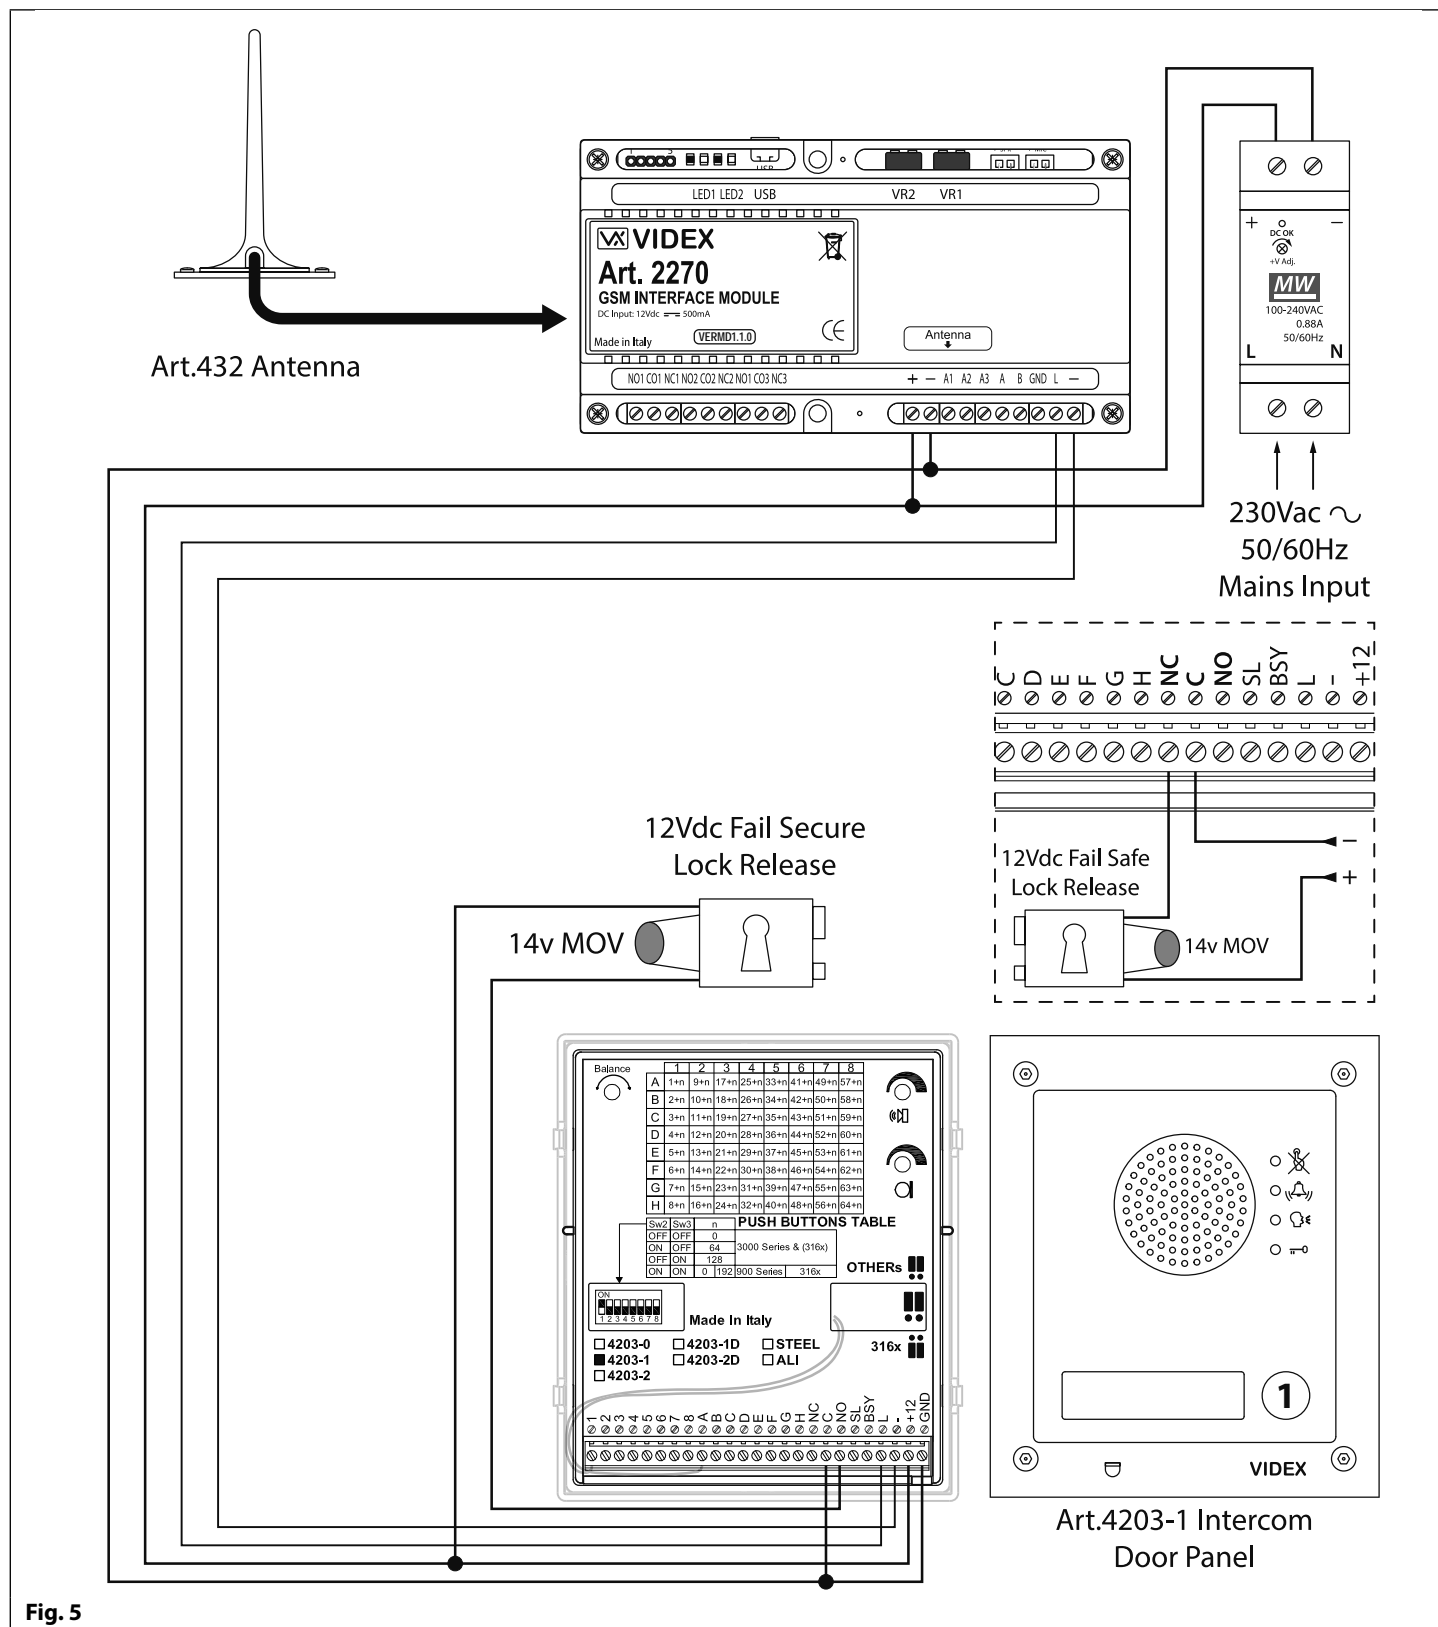

Fig. 5
The following wiring diagram, **Fig.5**, shows the wiring connections for a functional panel, in this example an **Art.4203-1** (speaker) functional panel. The wiring configuration of the panel's buttons can be found in the following technical manual: **VX2K2HDIGSYS Version 1.1** or the relevant installation instructions that come with the speaker module. The same wiring diagram can also be used for other series functional panels.
A fail secure lock release is shown, for fail safe lock release connections move the lock wire from normally open (NO) across to terminal normally closed (NC) on the speaker module, as shown in **Fig.5**.
The following wiring diagram, **Fig.6** similar to **Fig.5** shown on page 10, shows the wiring connections for a functional panel, in this example an **Art.VR4KAM2W (Art.138N speaker)** functional panel. To meet the Secured by Design specification the lock release is connected directly from the relay output (in this example relay 1) on the GSM module. The GSM module would be located in a secure location away from the intercom door panel with only the connections for the L and - databus and power connections. The wiring configuration of the panel's buttons can be found in the following technical manual: **VX2K2HDIGSYS Version 1.1** or the relevant installation instructions that come with the speaker module. The same wiring diagram can also be used for other series functional panels.